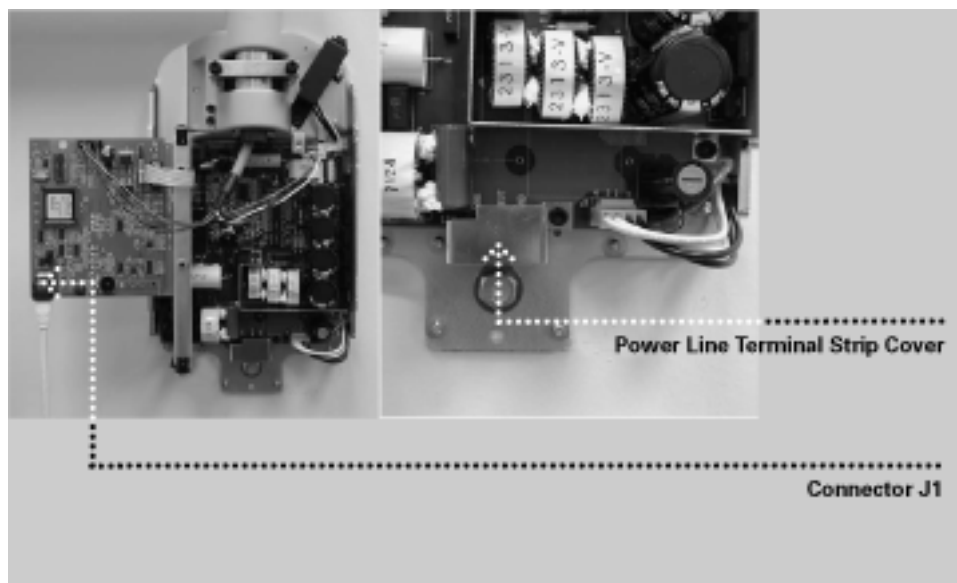

Figure 30
1. Using a 3 mm Allen wrench, remove the power line terminal strip cover at the base of the Power Supply Control Board to gain access to the power line terminal strip, as shown in *Figure 30*.
3. Plug the other end of the cable into connector J1 on the Power Supply Control Board 30-08160, as shown in *Figure 30*.